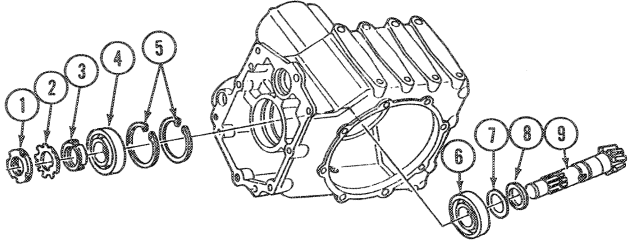

FIGURE 5-43
6. Install the thrust washer, 8, and correct amount of shims, 7, and rear pinion bearing, 6, on the drive pinion shaft, Figure 5-43.
7. Insert the pinion shaft into the housing from the rear and while holding in place install the front bearing, locknuts and locking ring as shown, Figure 5-43.